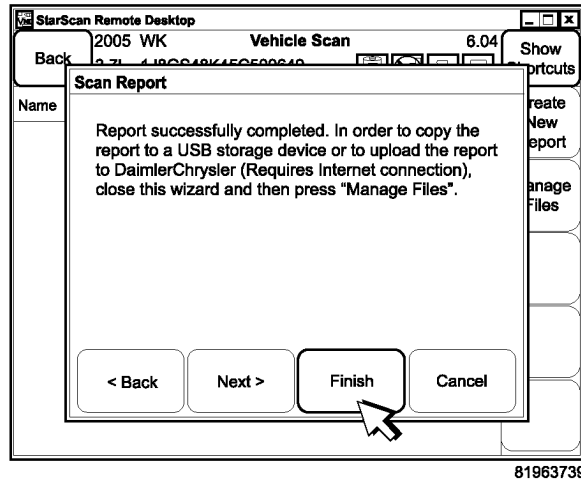

Fig. 6 SCAN REPORT - DIALOGUE BOX
7. The word “Scanning” will appear. After the report is created, the following “Scan Report” dialogue box appears. Select “Finish” (Fig. 6).